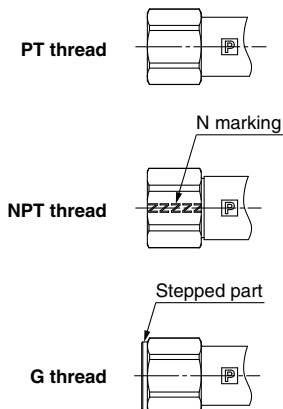

Fig. 11
1. The appearance of the screw-in connection differs depending on the thread type. (Fig. 11)